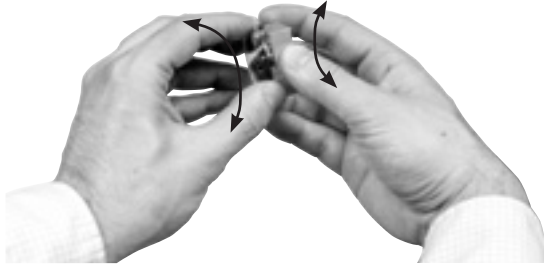

Fig. 6
4. Spinning the cover in the same direction and holding the magazine in a vertical position continue placing the pellets until the all positions are filled. Once the magazine is full, spin the aluminum side in the opposite direction and return the magazine to its initial position. (Fig. 6)